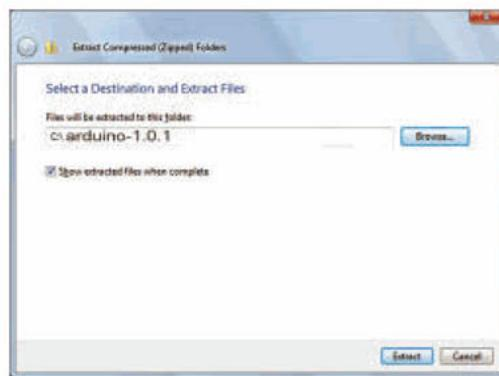

FIGURE 17: Extract All, Step 4.
- ❑ Name the new folder for the version of Arduino you are using; in **Figure 17**, it is Arduino-1.0.1.